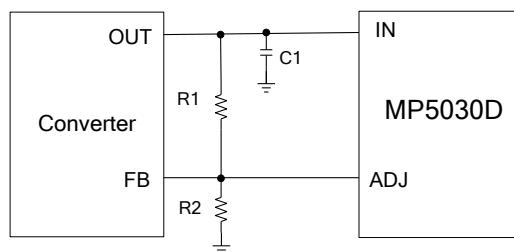

Figure 3: ADJ Configure
Figure 3 shows the typical ADJ usage. The ADJ sink current capability is 500μA. ADJ requires the feedback current through R1 to be less than 500μA. Calculate R1 with Equation (1):